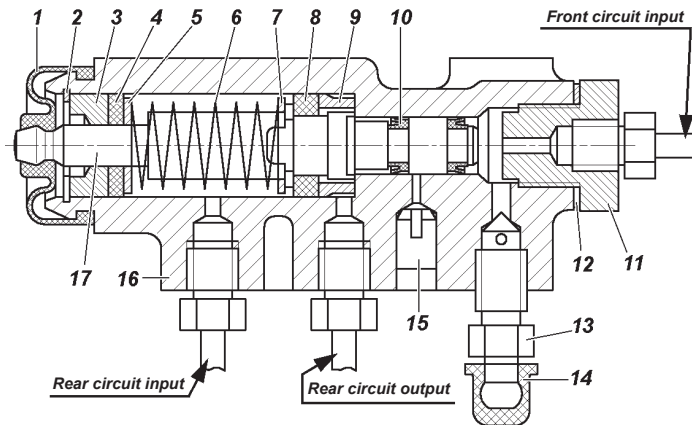
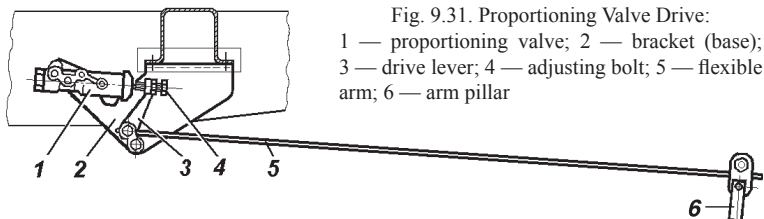

Fig. 9.30. Proportioning Valve:
Fig. 9.31. Proportioning Valve Drive:
**Proportioning Valve.** Non-ABS vehicles are equipped with the mechanical proportioning valve, which affects the rear brakes (Fig. 9.30), ensures the optimal distribution of braking forces between the axle shafts and prevents the rear wheels from blocking earlier than the front wheels. When servicing the vehicle check the proportioning valve. Clean it from dirt and check its attachment. Make sure by visual inspection that the valve and its drive parts are not damaged, the brake fluid does not leak, and the coupling of the pillar with the flexible arm or the bracket on the rear axle has no play.
When pressing the brake pedal proportioning valve, piston 17 (Fig. 9.30) shall move out from the housing for 1.7–2.3 mm. If the piston has
During the operation and during rear springs replacement adjust the force of flexible arm 5 (Fig. 9.31) to the valve piston. For adjustment do the following:
2. Loosen locknut of adjusting bolt 4 (Fig. 9.31) and unscrew the bolt for 2–3 turns.
3. Screw bolt 4 (Fig. 9.31) until it touches piston tail 17 (see Fig. 9.30) of the valve.